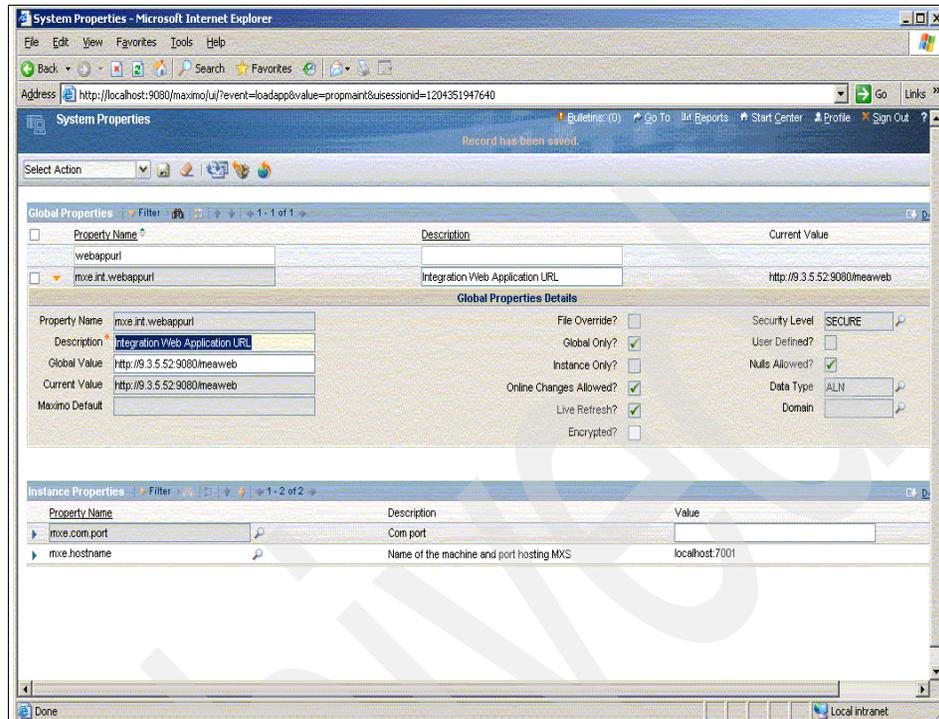

Figure 5-2 System properties window
3. Configure the Web Application URL to match the address of your Tivoli SRM application server. Refer to Figure 5-2 on page 175. The steps are: